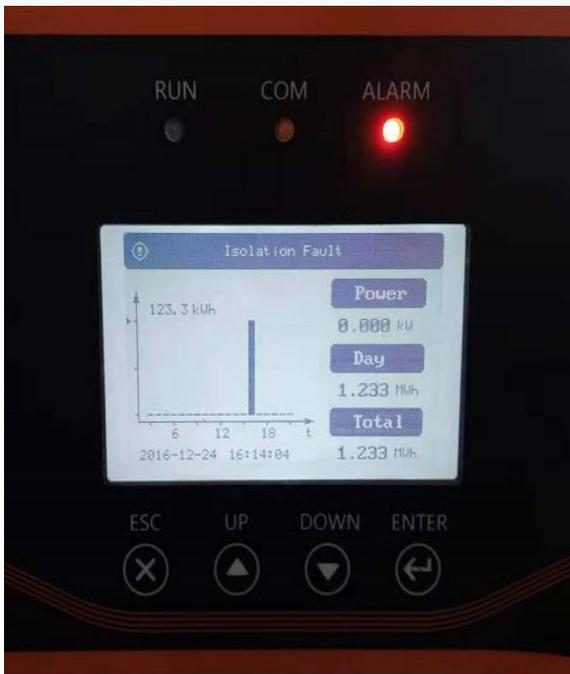

Figure 1
1. The screen shows "isolation fault", and the red indicator lights up during startup self-check. Figure 1